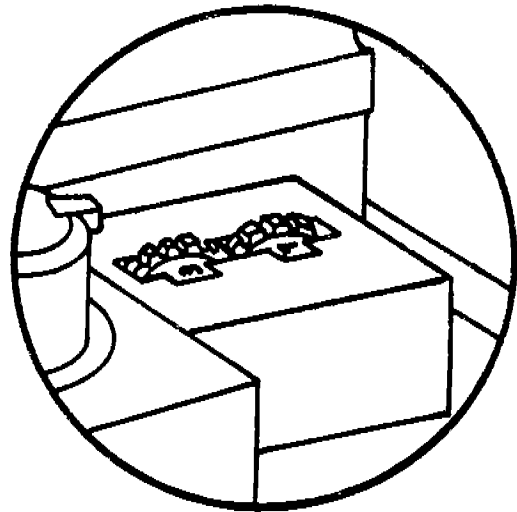

FIGURE 2-7.
The Forms Length Selector option (Figure 2-7) allows the operator to set the length of paper or forms to a maximum of 16½ inches. This is useful when printing non-standard length (11 inch) forms. To set the FLS simply enter the number of lines per form on the two thumbwheel switches. To determine the number of lines per form multiply the total form length in inches by six.
2. Unlock both ribbon spools by pulling latches toward the center of the hubs. Lift spools from hubs. (Figure 2-7) clearing loose ribbon from the guides and ribbon slot. Discard used ribbon and spools.